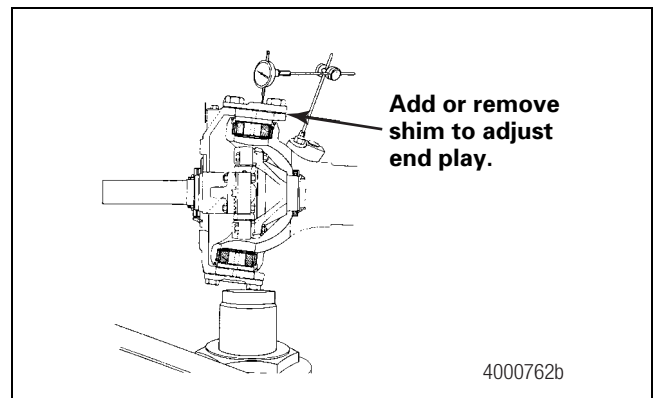

**Figure 6.4**
7. Position the lower cap assembly through the bottom bores of the knuckle and housing until the cap is against the knuckle. Figure 6.4.